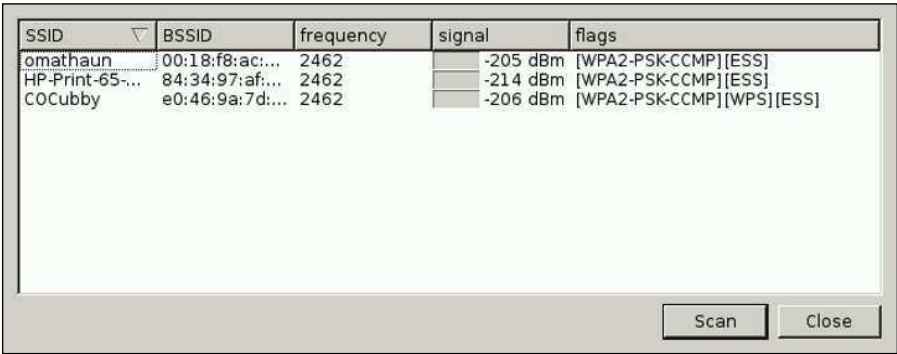

FIGURE 7-27: The Scan window
2. Click the Scan button. The supplicant scans for available APs and displays a list in a new window. See Figure 7-27.